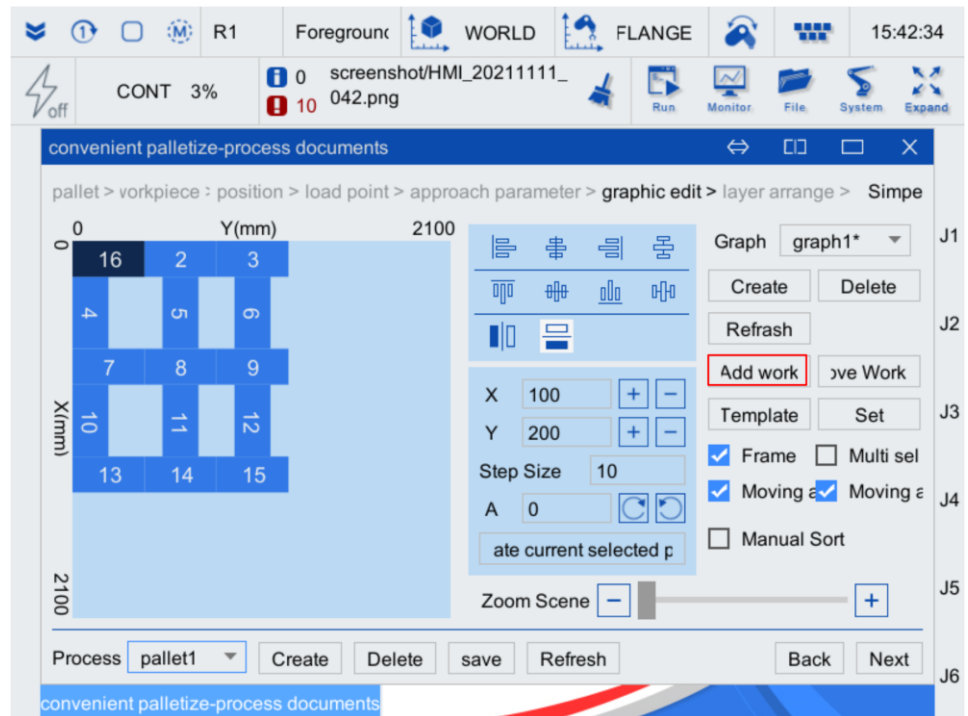

Figure 3-24 Add workpiece diagram
- Step7. After arranging neatly, click "Add workpiece", and the newly added workpiece 16 will overlap with workpiece 1. When the workpiece overlaps, it will be displayed in red. As shown in Figure 3-24.